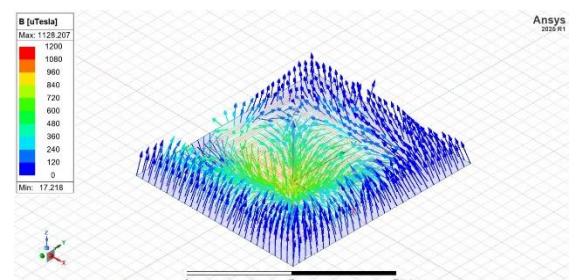
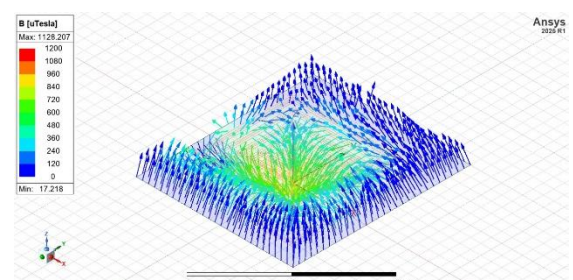

Fig.27: Magnetic Field Vector
Fig.28: Magnetic Field
4) FIELDS: The magnetic field variation is shown in Figure 27 and Figure 28. The linkage is concentrated towards the center